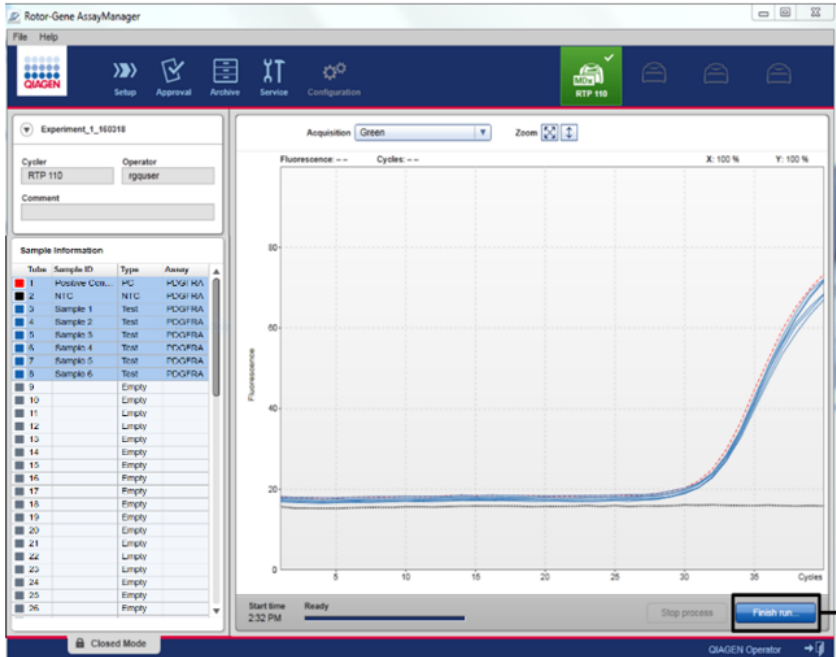

Figure 10. Finishing a run. 1 – Finish run button.
22. After the run is complete, click **Finish run** (Figure 10).